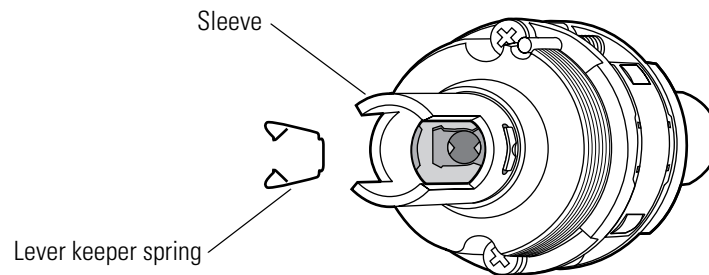

Figure 3.14 Positioning the lever keeper spring
1. Position the lever keeper spring as shown in Figure 3.14.